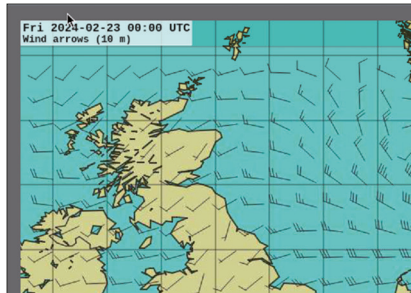

Figure 17.60: Animation of the display.
- Click on the **rocketship icon** at the top right hand to animate the display. You should see the time advancing and the state of the wind as the time is changing (Figure 17.60 where only part of the display is shown).